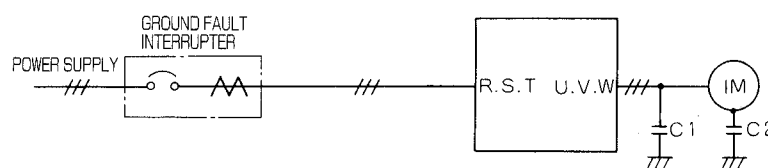

Fig. 11.9 Installation of Ground Fault Interrupter
(9) When a ground fault interrupter or leak relay is used, it must be well balanced and placed in the power supply line as shown in Fig. 11.9. Since output from the controller contains a high-frequency component, zero-phase current may flow through the voltage-to-ground capacitance of the inverter-motor cable (C1) or the voltage-to-ground capacitance of the motor (C2), improperly activating the ground fault interrupter. To avoid this, observe the following: